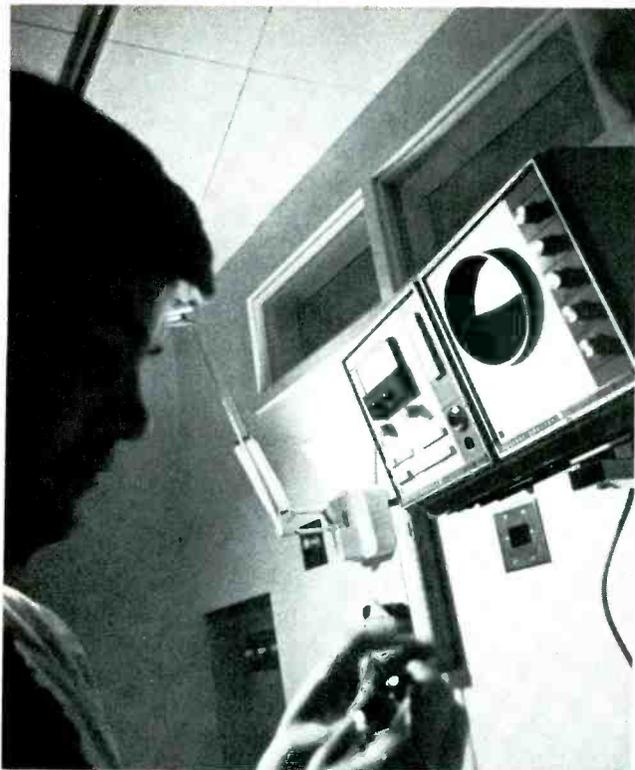

Fig. 6—Wall-mounted cardiac monitor system.
Model 7830A, which is often found in emergency rooms (ER), OR, ICU and CCU monitoring systems. It is designed for applications that require an immediate view of the ECG without the need of a written record, although that also is available as an outboard accessory. It includes an internal oscilloscope with optional dual - trace capability, and ECG preamplifier, a heart - rate meter (cardiotachometer) and an alarm system, all integrated into a single cabinet. The cable shown in the illustration is connected to the surface electrodes pasted on the patient's skin. Heart rate is indicated on the screen of the CRT by a horizontal line (in the lower left quadrant) whose length is proportional to the heart rate in beats per minute. Figs. 6 and 7 show similar equipment in different configurations.